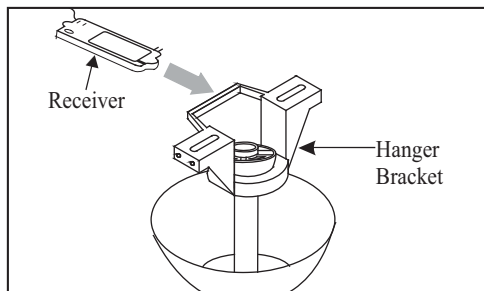

Figure 13
1. Insert the receiver into the hanger bracket with the flat side of the receiver facing the ceiling as Figure 13.